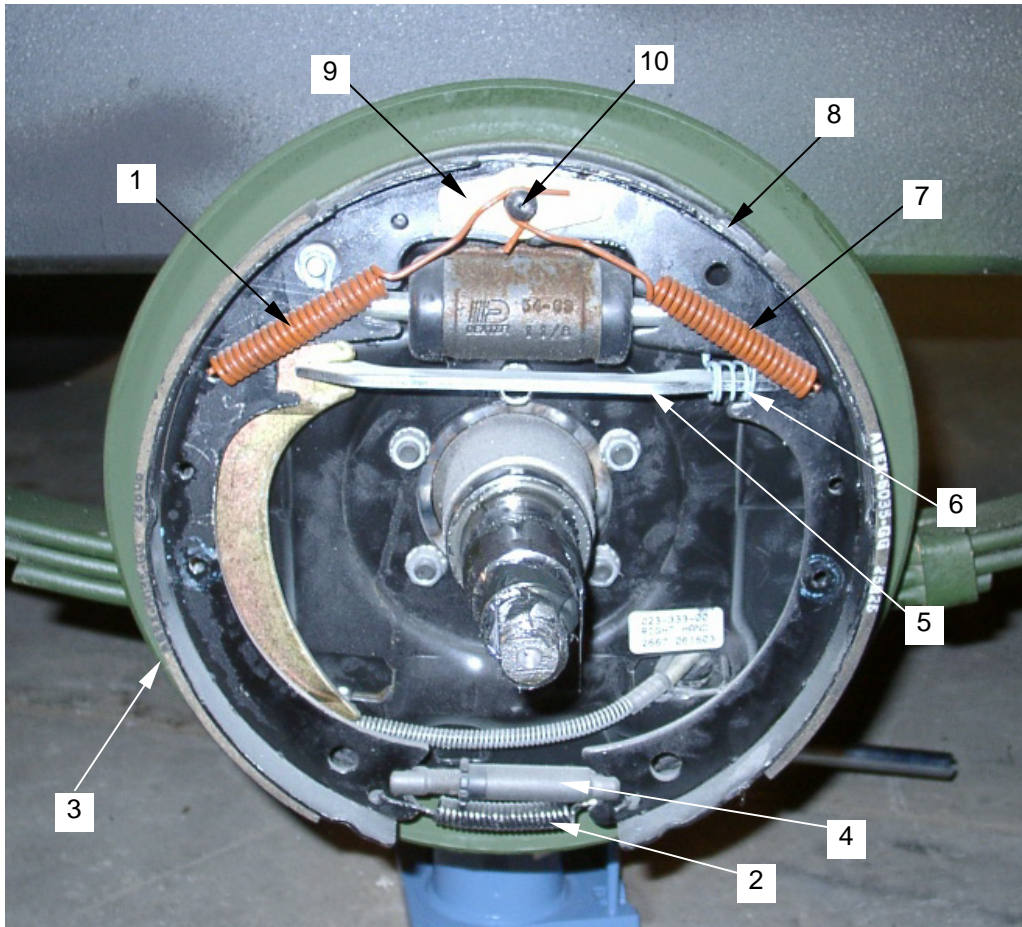

Figure 33. Brake Drum Assembly
- gg. Install retractor spring (**figure 33, item 1**) and adjuster spring (**figure 33, item 2**) on secondary brake shoe (**figure 33, item 3**).
- kk. Install adjuster (**figure 33, item 4**).
- ll. Install spreader (**figure 33, item 5**) and spreader spring (**figure 33, item 6**).
- mm. Install retractor spring (**figure 33, item 7**) and adjuster spring (**figure 33, item 2**) on primary brake shoe (**figure 33, item 8**).
- nn. Install primary brake shoe (**figure 33, item 8**).
- qq. Install shoe guide plate (**figure 33, item 9**).
rr. Install retractor springs on spring post (figure 33, item 10).